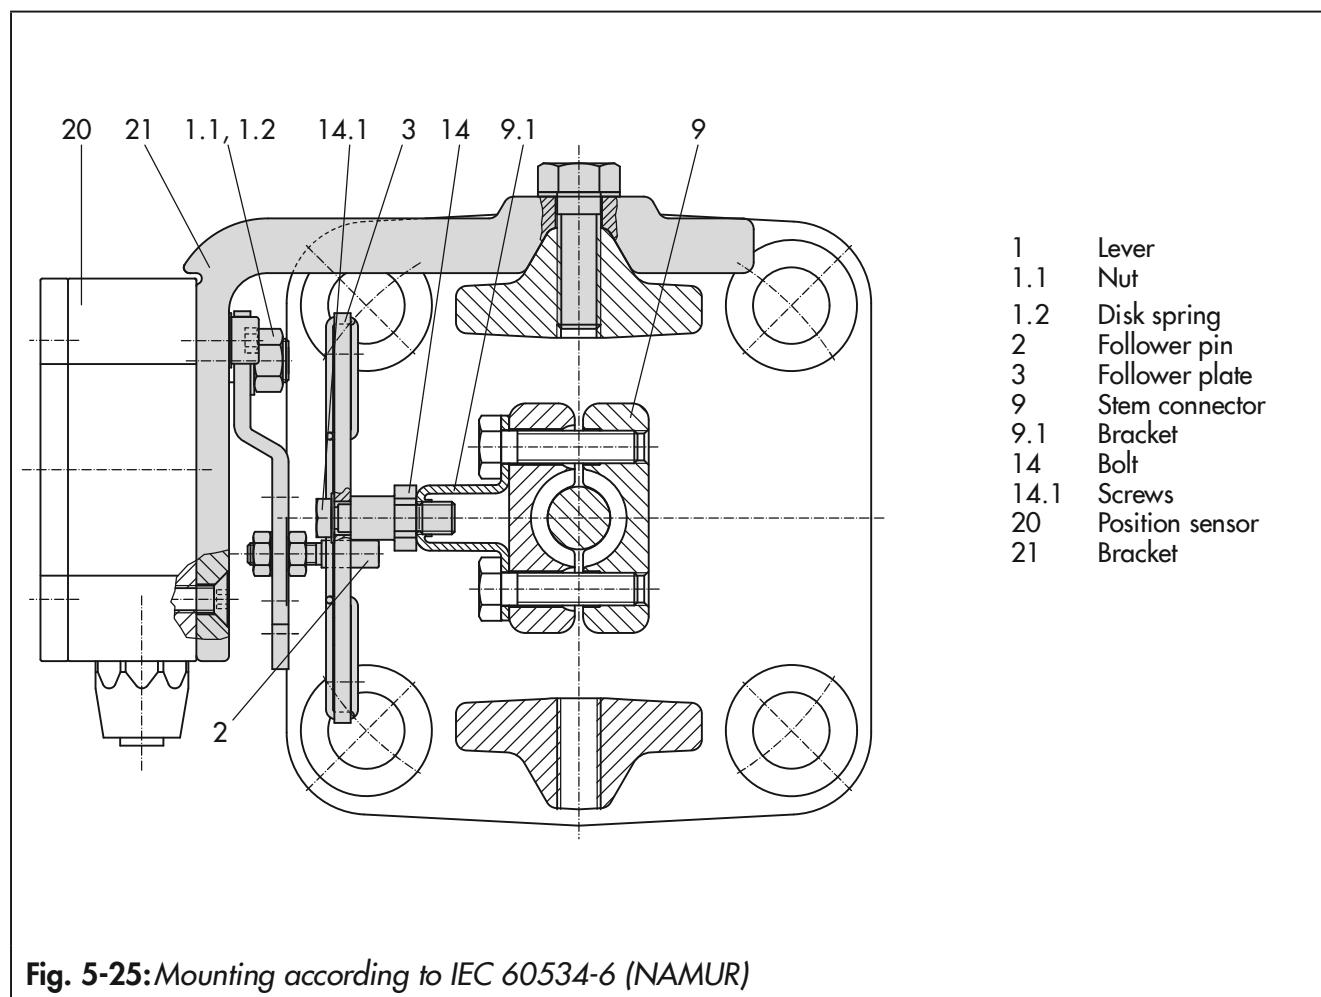

Fig. 5-25: Mounting according to IEC 60534-6 (NAMUR)
- See Fig. 5-25
1. Place the lever (1) on the position sensor in **mid-position** and **hold it in place**. Unthread the nut (1.1) and remove the lever together with the disk spring (1.2) from the sensor shaft.
2. Screw the position sensor (20) onto the bracket (21).